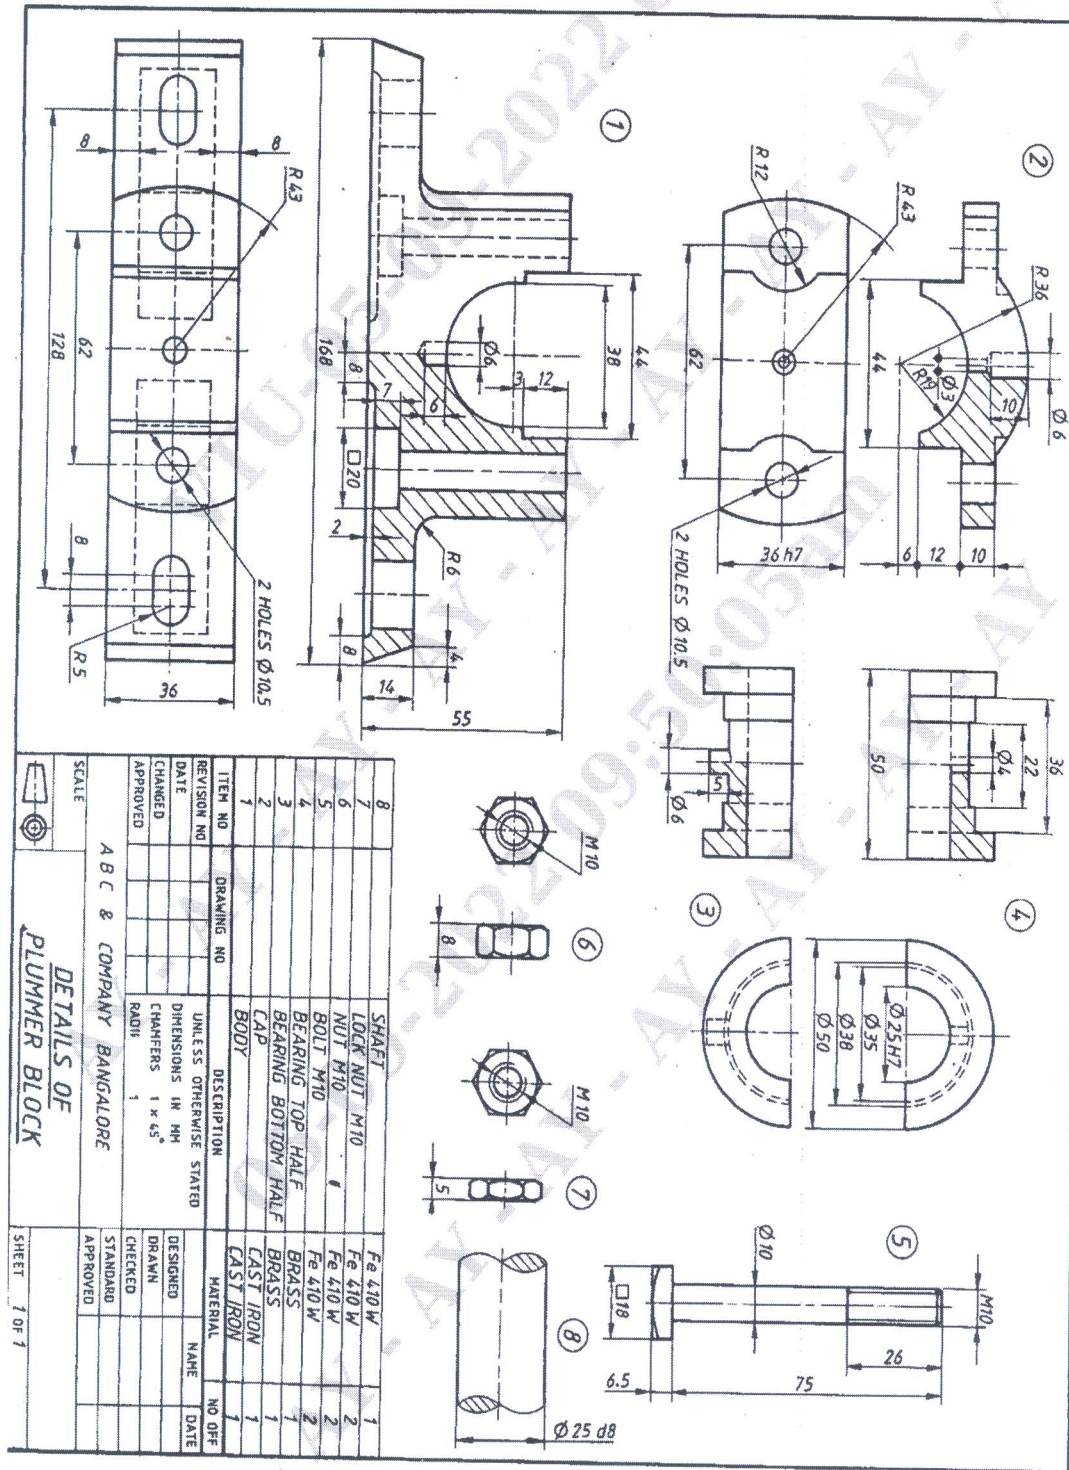

Figure 2
5. Details of 'PLUMMER BLOCK' are shown in following Figure 2. **60 Marks**